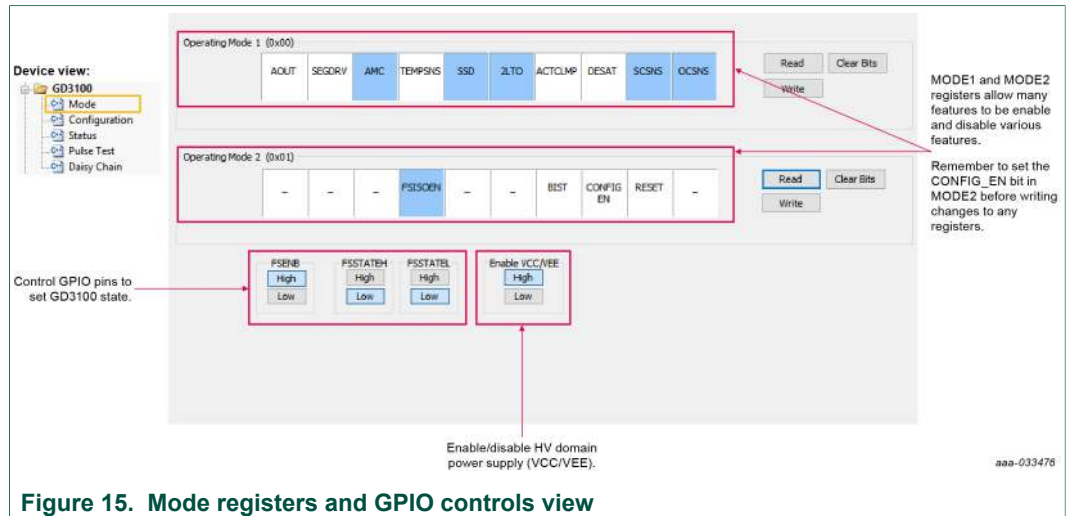
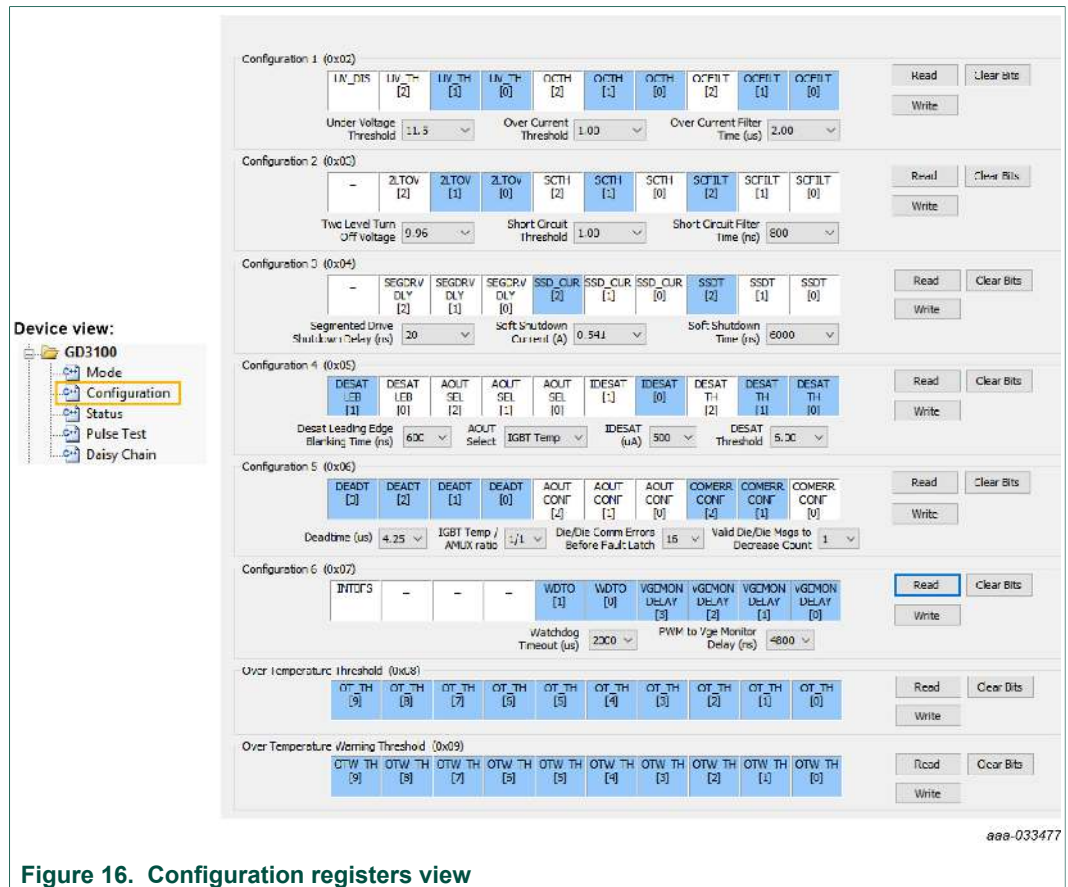
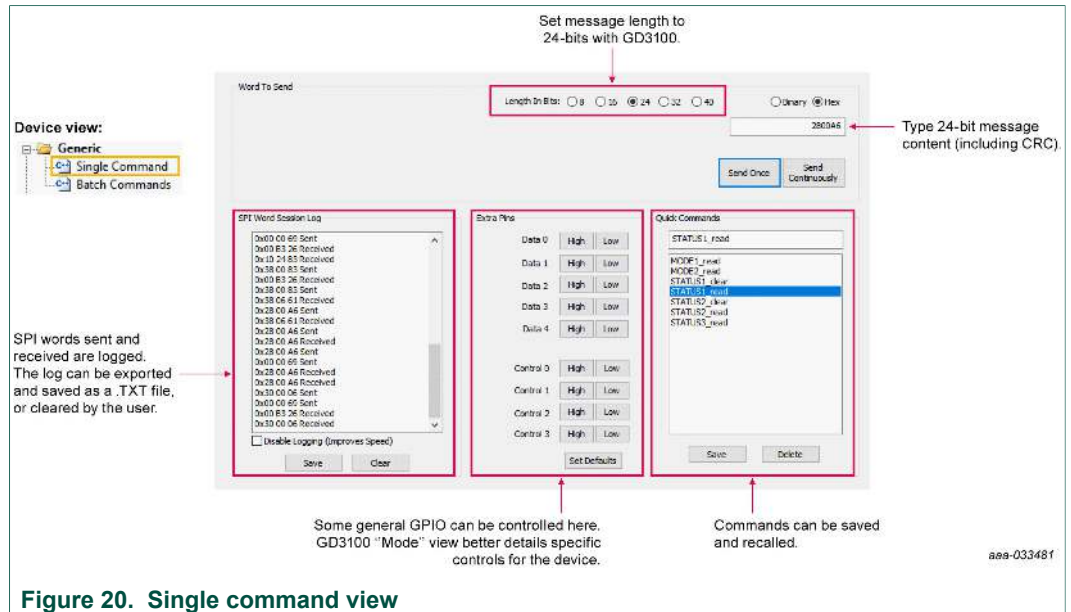
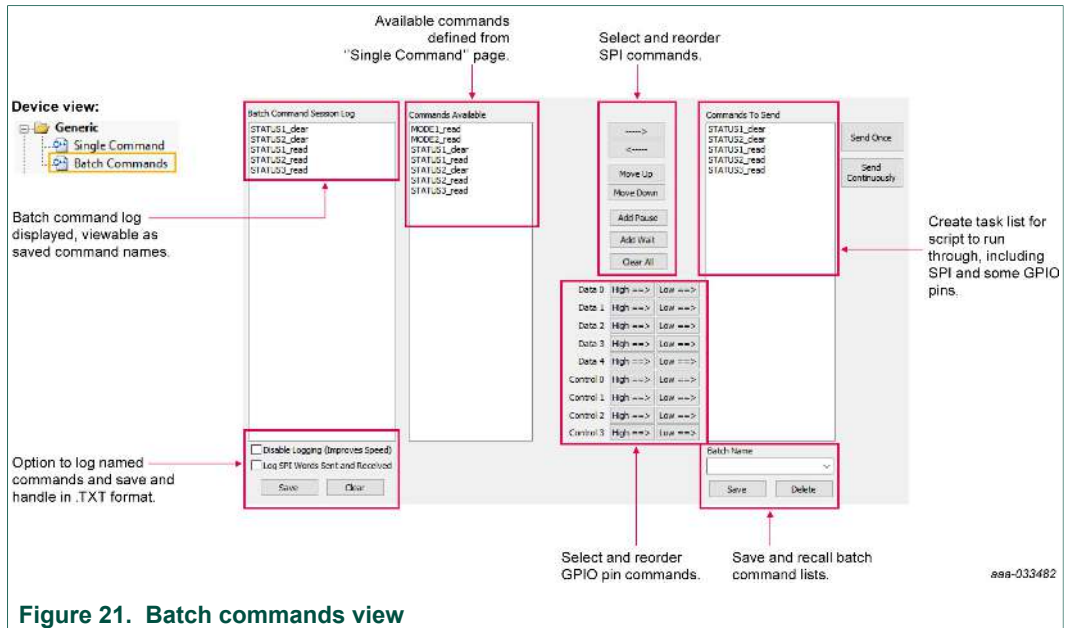

Figure 15. Mode registers and GPIO controls view
Figure 16. Configuration registers view
Figure 20. Single command view
Figure 21. Batch commands view
See Figure 15 for an overview of control options available on the “Mode” view on SPIGen. See GD3100 data sheet for a complete description of MODE1 and MODE2 registers and pin functionalities. The onboard flyback power supply providing VCC and VEE for the HV domains can be enabled (default) or disabled in the event and external supply or characteristic is desired.
| v.2      | 20190403 | <ul style="list-style-type: none"><li>• <a href="#">Section 4</a>: complete rewrite</li><li>• Global: various figures, tables updated to support new driver board revision (B)</li><li>• Global: various figures, tables updated to support new translator board revision (C)</li><li>• <a href="#">Section 5.2</a>: updated text</li><li>• <a href="#">Section 6.2</a>: added SPIGen installation procedure</li><li>• <a href="#">Section 6.1</a>: added firmware installation procedure</li><li>• <a href="#">Section 6.3</a>: complete rewrite for newest release of SPIGen</li><li>• <a href="#">Figure 14</a>, <a href="#">Figure 15</a>, <a href="#">Figure 16</a>, <a href="#">Figure 17</a>, <a href="#">Figure 18</a>, <a href="#">Figure 19</a>: updated for newest SPIGen (v7.2.2) release</li><li>• <a href="#">Figure 20</a>, <a href="#">Figure 21</a>: added as general SPIGen support</li></ul> |
| Fig. 10. | Freedom Development Platform .....                                       | 17 | Fig. 20. | Single command view .....                     | 28 |
|          |  |    | Fig. 21. | Batch commands view .....                     | 29 |